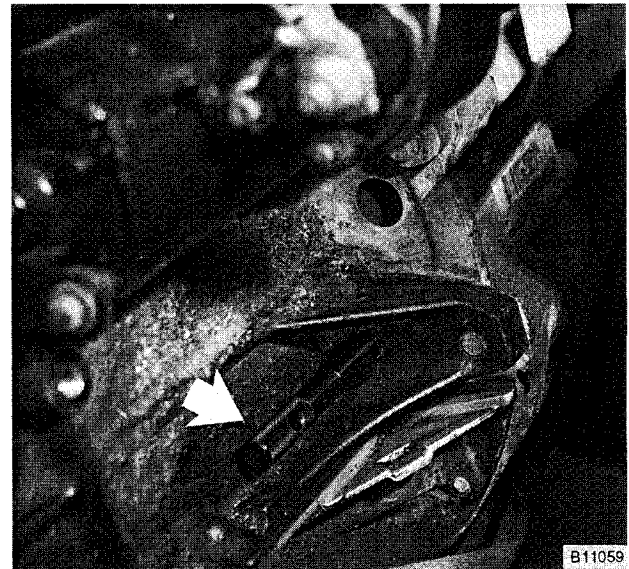

Fig. 19. BMW special tool 11 2 300 inserted through bellhousing hole and into flywheel (arrow) to lock crankshaft at TDC.
9. Carefully rotate crankshaft in direction of engine rotation and lock it at TDC by inserting BMW special tool no. 11 2 300 through transmission bellhousing. See Fig. 19.